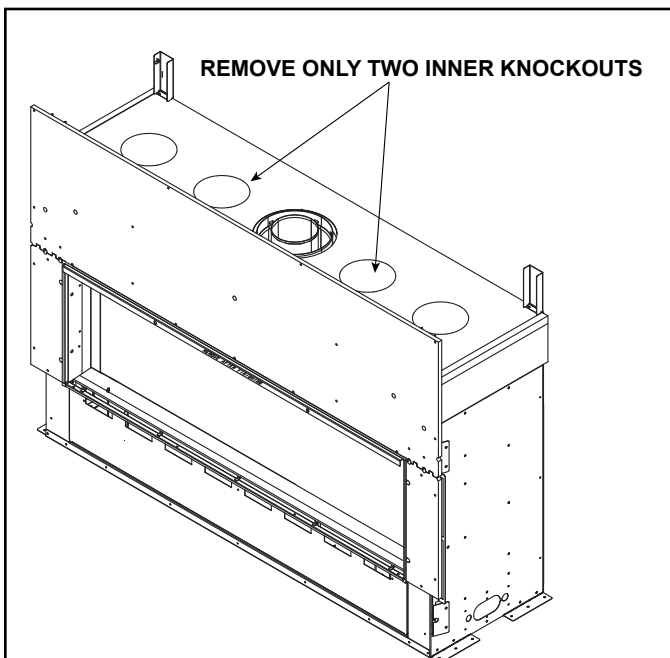
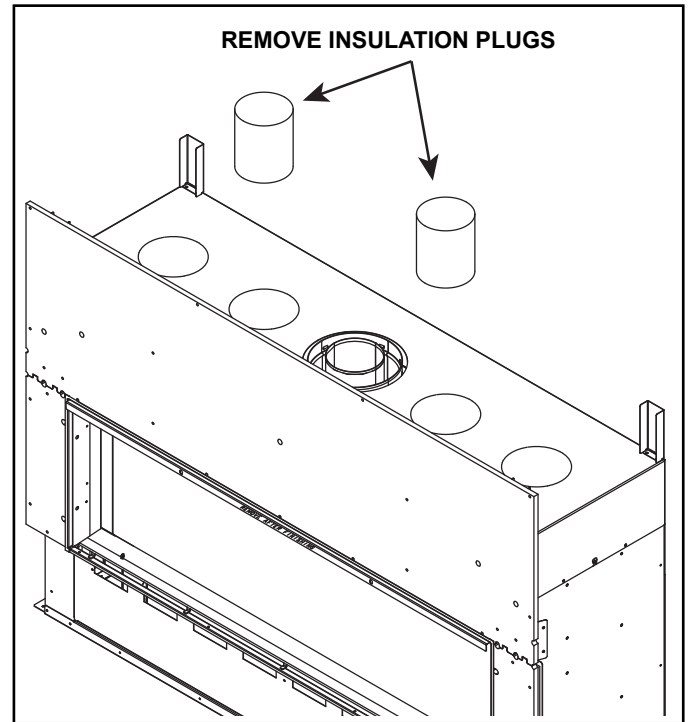

Figure 5.1 Remove Knockouts
Figure 5.2 Remove Insulation Plugs
1. Remove the two inner heat management knockouts from the top of the appliance by dislodging them with a hammer and then using a screwdriver to remove from the holes. See Figure 5.1 and Figure 5.2. Install collars over the openings using hurricane screws provided in the kit.